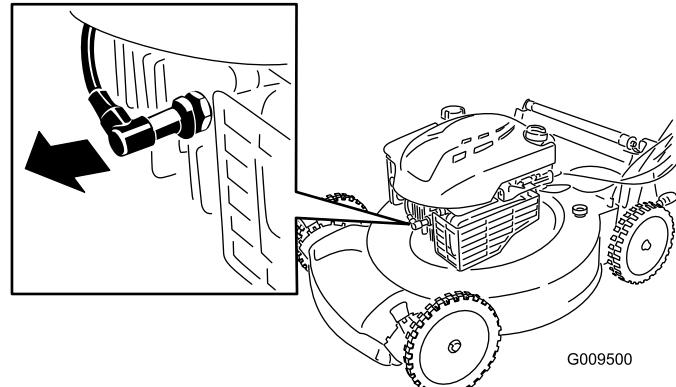

Figure 20
- Disconnect the spark plug wire from the spark plug (Figure 20) before performing any maintenance procedure.